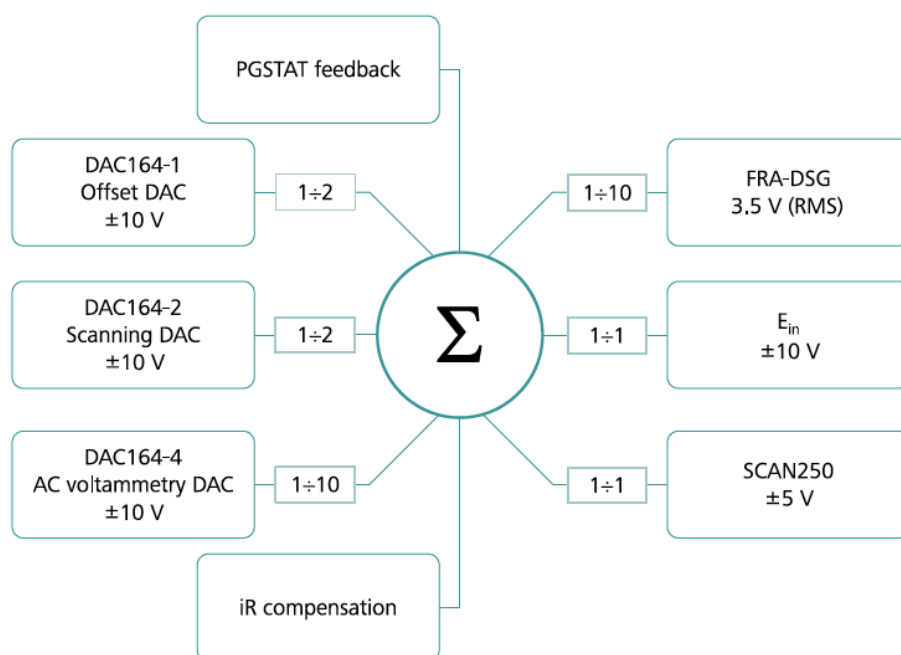

Figure 863 Schematic representation of the summation point of the Autolab
The summation point (Σ) is an **adder** circuit that feeds the input of the control amplifier (CA). Each of the inputs of the summation point is divided by a hardware-defined value (see Figure 863, page 669).